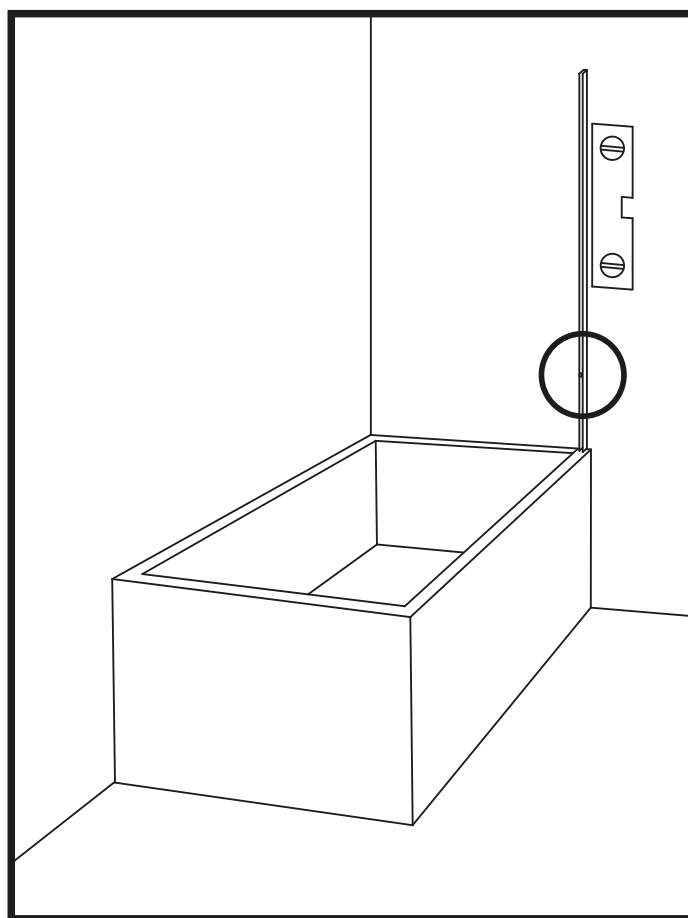

Figure 2
2. Using a level, place the hinge bar profile vertically on the wall so that the edge is flush with the edge of the bathtub. (Fig 2)